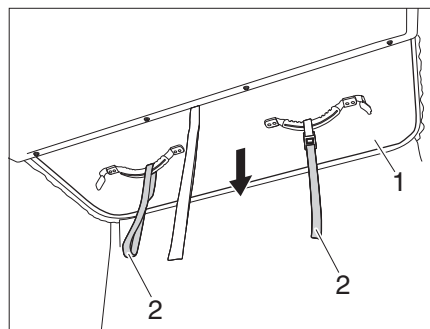

Fig. 12 Pulling the pop-up roof downwards
- Pull the pop-up roof (Fig. 12,1) slowly downwards by the pullers (Fig. 12,2) **looking** towards the rear, and observe whether the fabric bellows falls neatly inwards.